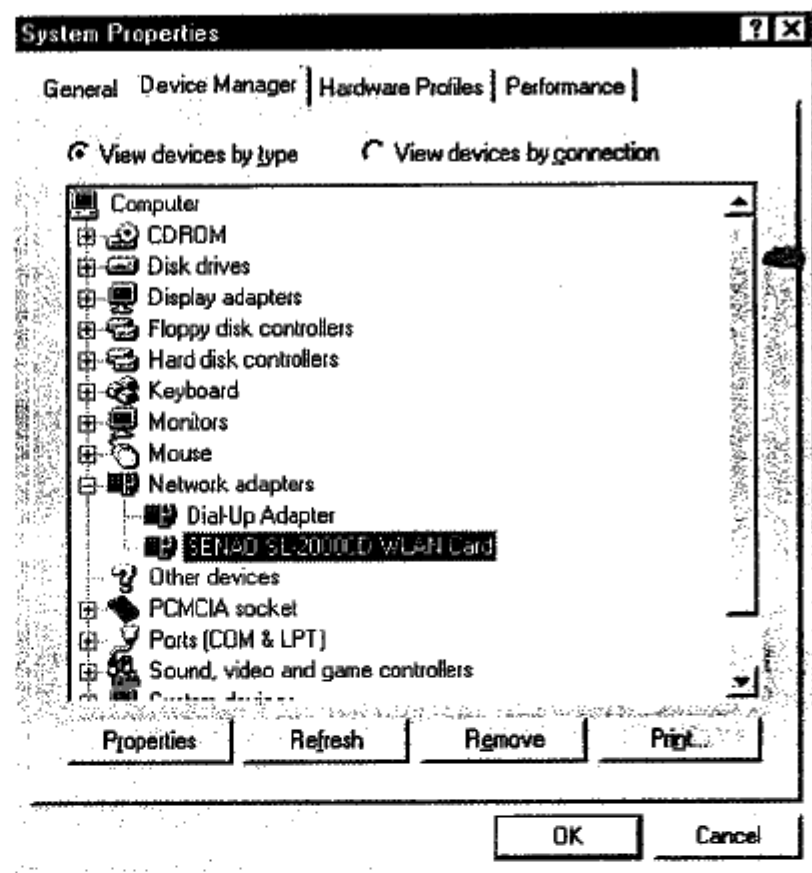

Figure 3-34
3. Double-click the "Network adapters", then select "SENAO SL-2000CD WLAN Card" component and click "Remove" to uninstall the PC Card driver files, as shown in Figure 3-34.